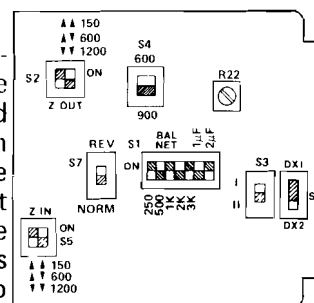

figure 7. 6042 option switch locations
3.06 Eight option switches must be set before the 6042 can be placed into service. The location of each switch on the module's printed circuit board is shown in figure 7. Switch designations are indicated adjacent to each switch.